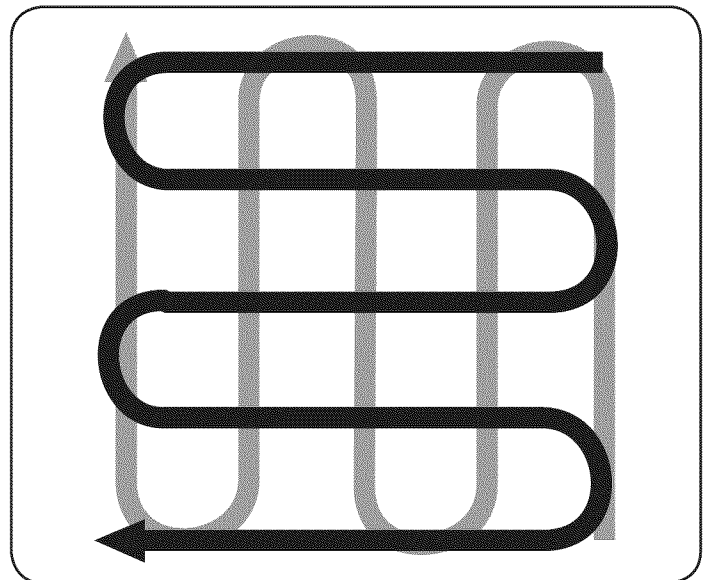

Figure 17
- When finished in one direction, make a second pass at a right angle. See Figure 17. Overlap each pass for the best results (in very hard ground, it may take three or four passes to thoroughly pulverize the soil.)